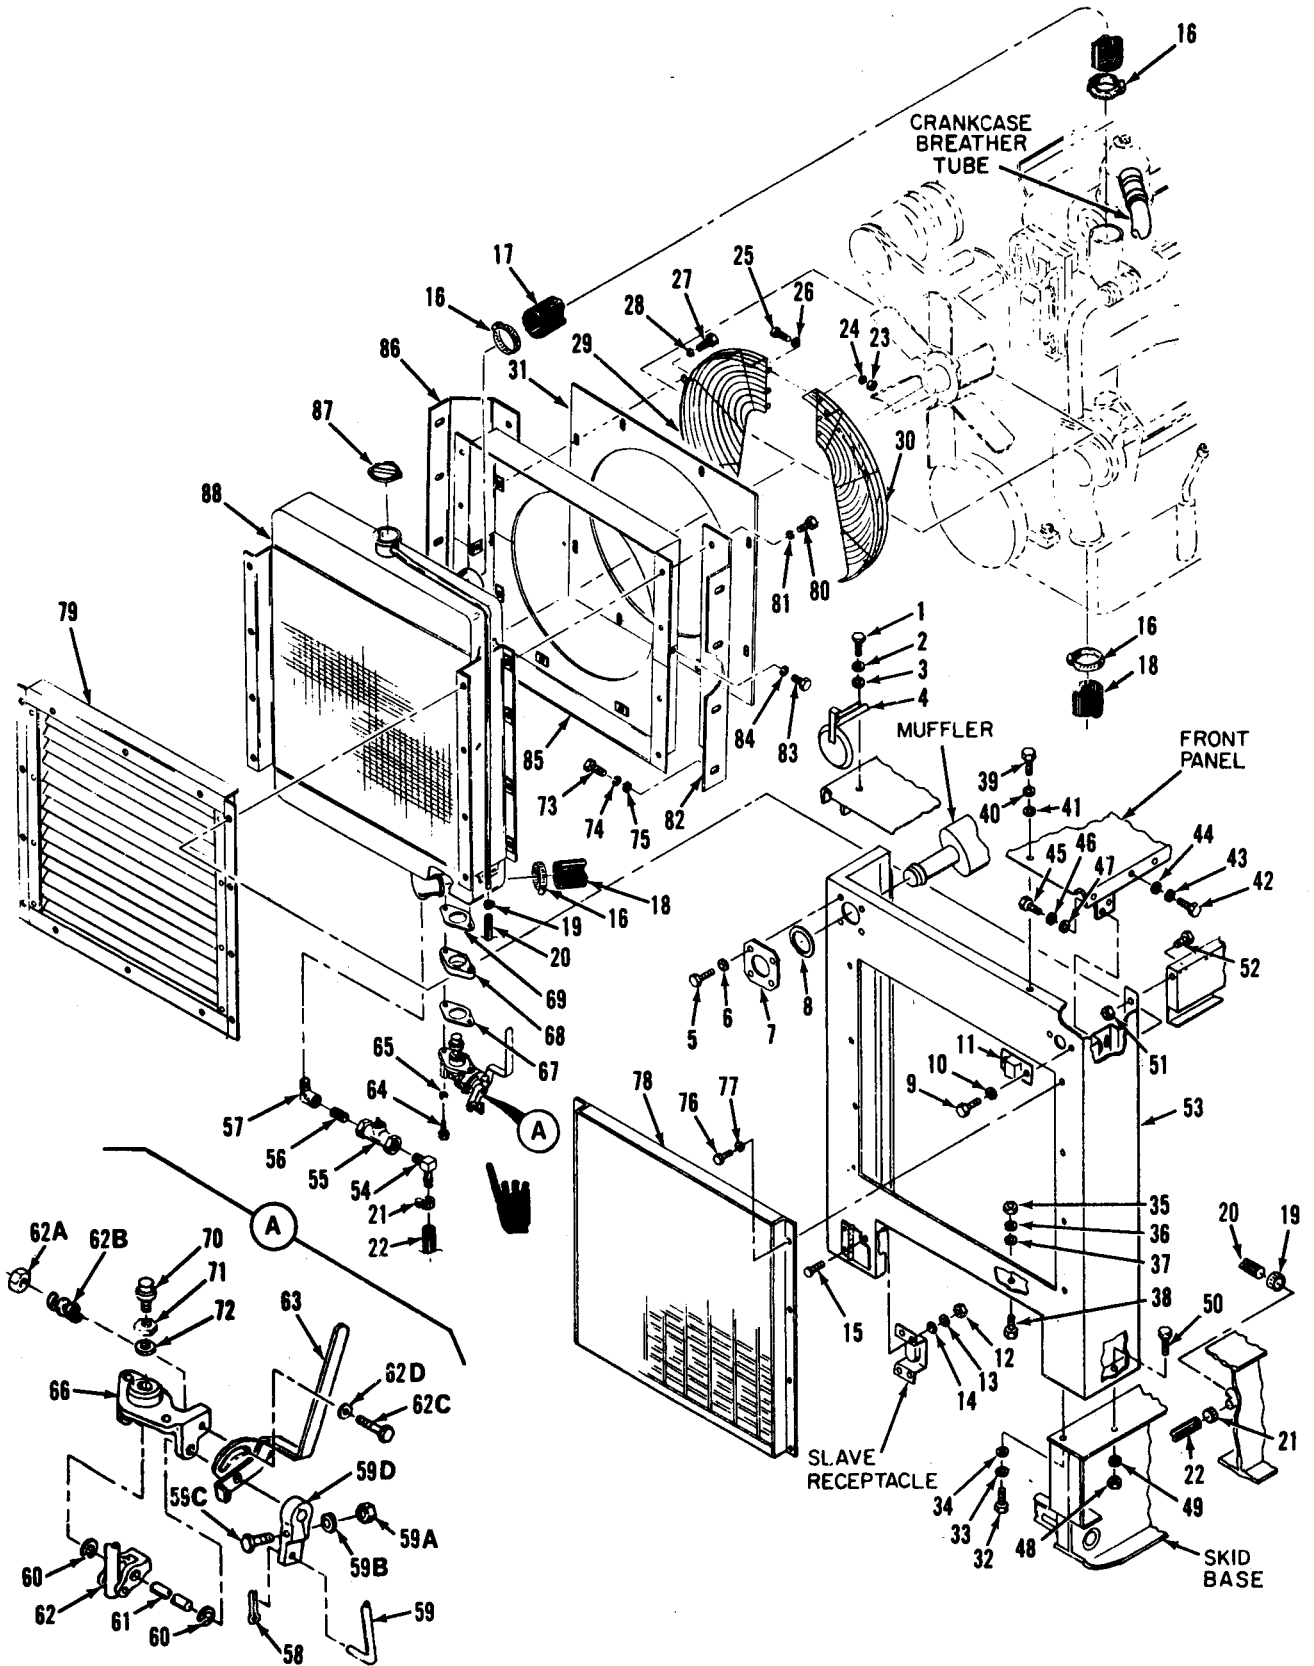

Figure 3-15. Radiator and shutter assembly, exploded view
a. REMOVAL. Refer to figure 3-15 and remove fan guards and grill as follows:
c. **INSTALLATION.** Refer to figure 3-15 and install fan guards and grill as follows:
- (a) Position fan guards (29 and 30) on studs. Secure fan guards together with screws (26), nuts (23), and washer (23 and 24).
- (b) Install screws (27) and washer (28) finger tight. Remove studs and install remaining screws and washers.
- (c) Position shroud plate (31) so that clearance between plate and each fan blade tip is equal. Tighten screws (27).
- (a) Position grill (78) on front housing and install screws (76) and washers (77) finger tight. Remove studs and install remaining screws and washers.
- (b) Tighten screws (76) evenly to prevent distortion of shutter. Using shutter manual control handle, open and close shutter and check for binding. If binding is present, loosen screws and retighten evenly.
Refer to figure 3-15 and remove and disassemble shutter control assembly as follows:
3. Remove cotter pin (58, figure 3-15) and shutter control rod (59) from lever (63).
Legend to figure 3-15:
1. Place power element (70, figure 3-15) and calibrate thermometer in suitable container filled with water.
Refer to figure 3-15 and reassemble and install shutter control assembly as follows:
a. REMOVAL. Refer to figure 3-15 and remove radiator hoses as follows:
2. Loosen clamps (16, figure 3-15) and remove hoses (17 and 18) from engine and radiator.
b. INSTALLATION. Refer to figure 3-15 and install radiator hoses as follows:
1. Position hoses (17 and 18) on engine and radiator and secure with clamps (16).
b. REMOVAL. Refer to figure 3-15 and remove radiator and shutter in the order of index numbers. Pay particular attention to the following:
2. Remove battery access door (25, figure 3-14) from front housing (53, figure 3-15).
3. Disconnect front housing (53, figure 3-15) from generator set in the order of index numbers. Remove assembled housing from generator set.
d. INSTALLATION. Refer to figure 3-15 and install radiator and shutter in the reverse order of index numbers. Pay particular attention to the following:
2. Install items (54 through 88) on front housing (53) prior to installing housing on generator set.
3. When securing grill (78), shutter (79) and radiator (88) to front housing (53), tighten screws (76) evenly. Using shutter manual control handle, open and close shutter and check for binding. If binding is present, loosen screws and retighten evenly. Repeat procedure until there is no binding.